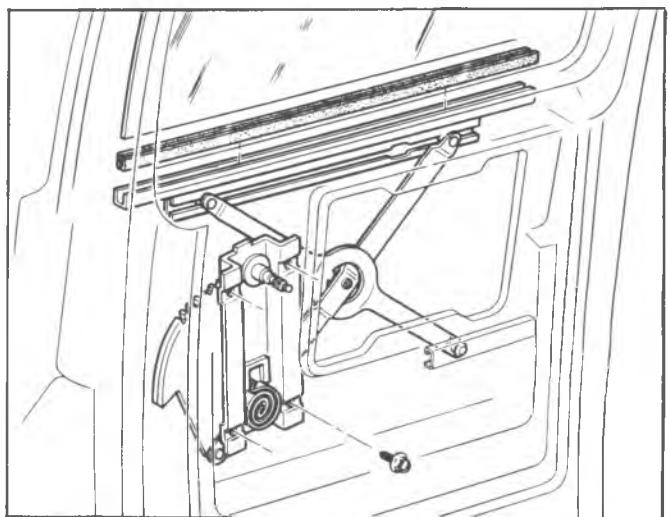

Fig. 40—Window Glass and Regulator Assembly
## WINDOW GLASS—FIG. 40
- channel. See figure 40. Disengage roller from channel.
## WINDOW REGULATOR ASSEMBLY—FIG. 40